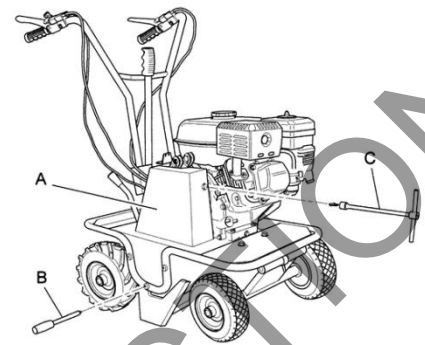

Fig. 6
- remove the metal guard (fig. 6 ref. A), by unscrewing and taking out the screws shown in figure 6 ref. B and C.